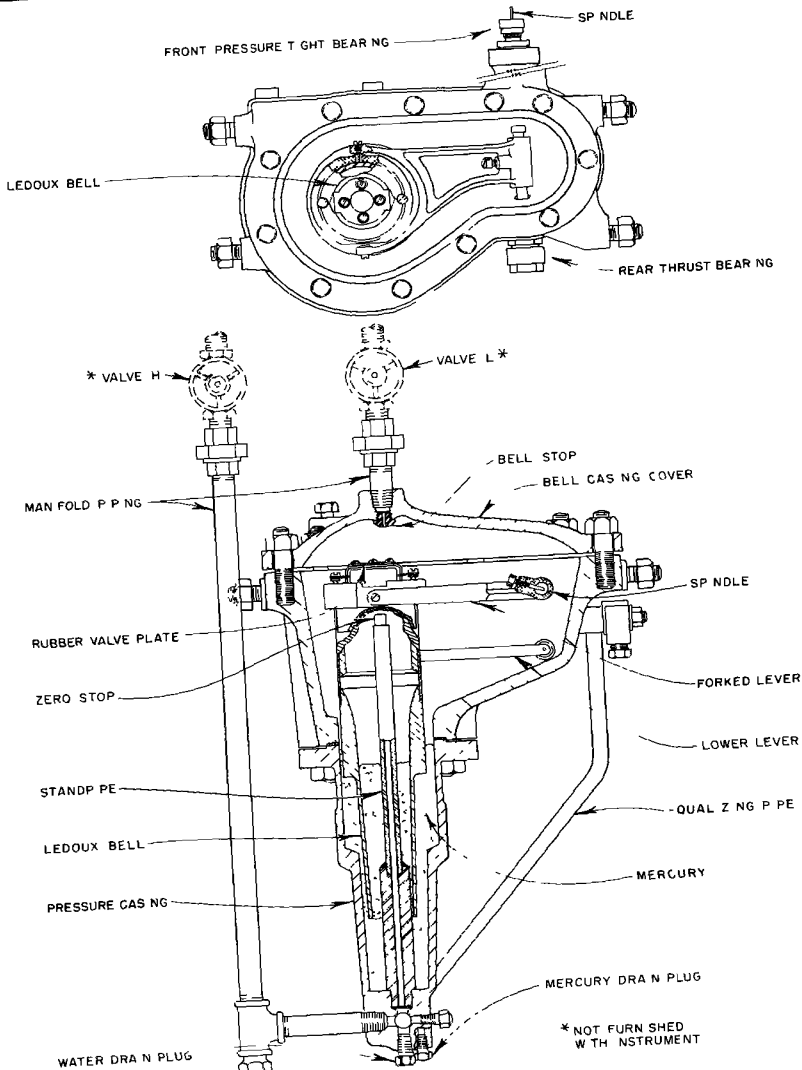
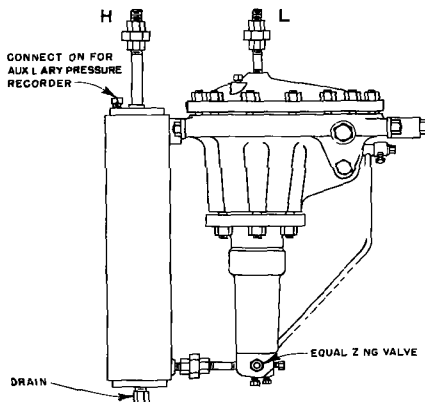

FIGURE 1 Type CC or DC Flow Mechanism
FIGURE 2 - Piping With Volume Chamber for Air or Gas Flow Measurement
3. Assemble short lengths of manifold piping (furnished with instrument) to bell casing (Figure 1). For air or gas flow measurement, note that high pressure pipe H consists of a volume chamber to absorb pressure surges (Figure 2).
a. With equalizing valve closed, blow compressed air thru high pressure pipe H (Figure 1) until air flows freely thru top of standpipe
2. Refer to Figure 1 Connect instrument piping to manifold piping at unions H and L. Tighten unions only hand tight.
2. Refer to Figure 2 Make instrument piping connections to manifold piping at unions H and L
1 Refer to Figure 1 If instrument is to be removed from service temporarily, close valves H and L and immediately open equalizing valve. Pen or pointer should go to zero within one minute